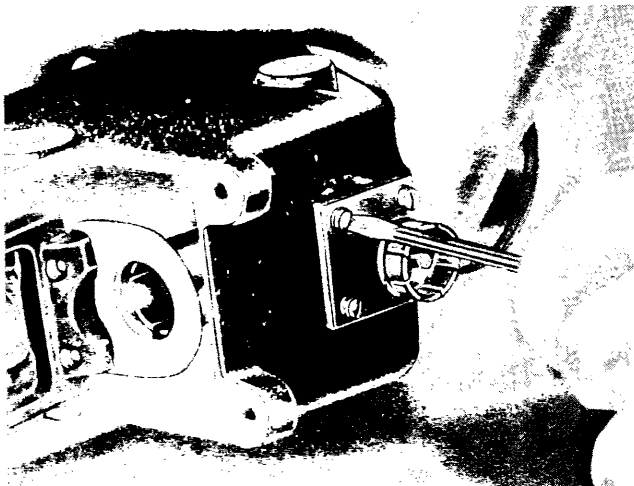

Figure 105G
3. Remove the four screws holding the electrical connector plug housing. (See figure 105G.) Detach the electrical connector socket pin mounted in the moulded-phenolic base, but do not break the cable connection.